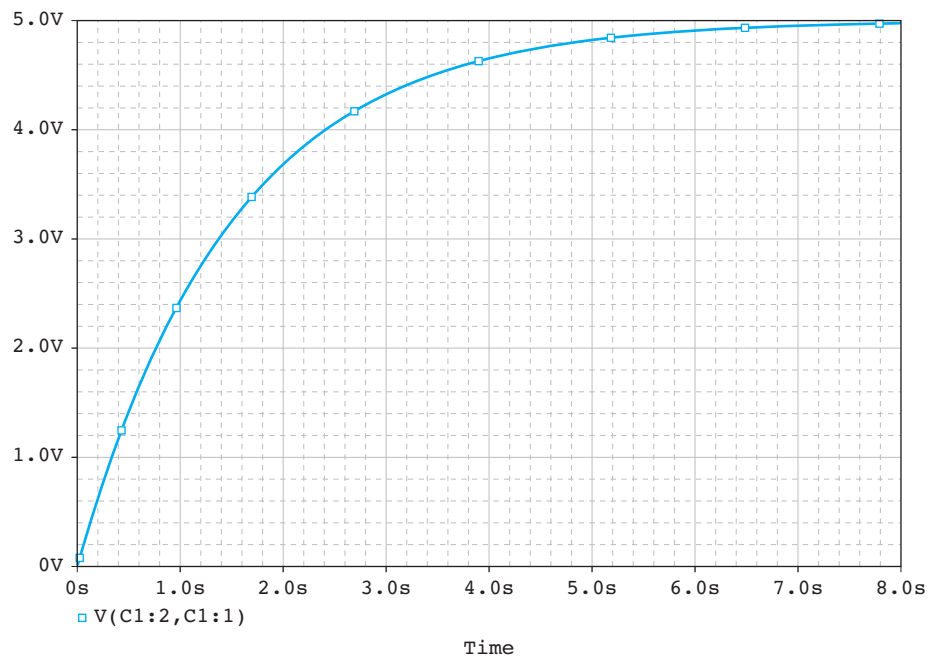
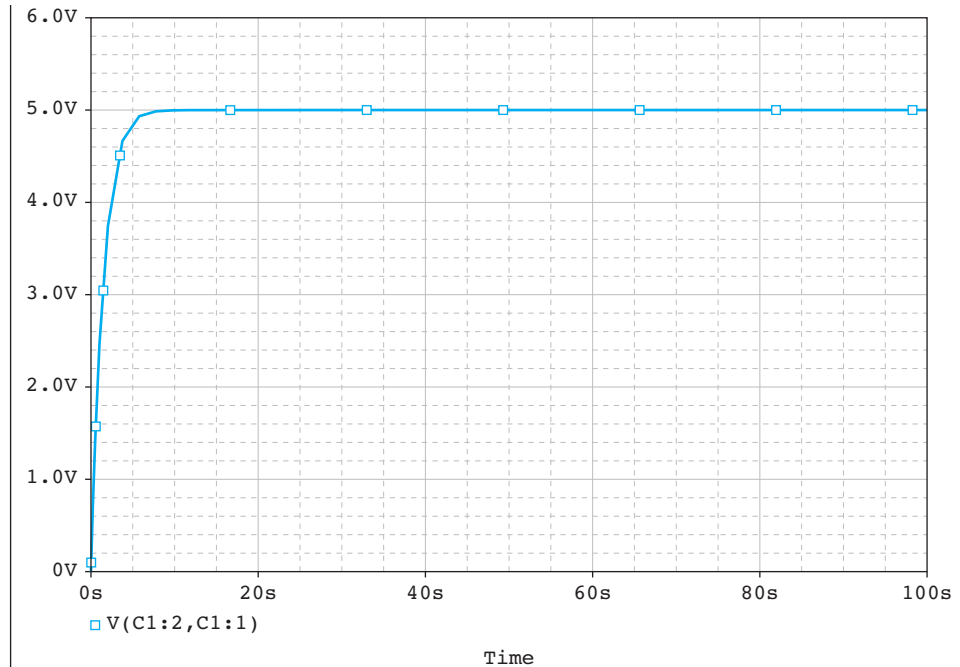

FIGURE 5.49 Voltage across the capacitor at $t = 5$ s.
FIGURE 5.50 Voltage across the capacitor at $t = \infty$.
6. Figure 5.49 shows the voltage across the capacitor at $t = 5$, and Figure 5.50 shows the voltage across the capacitor at $t = \infty$.